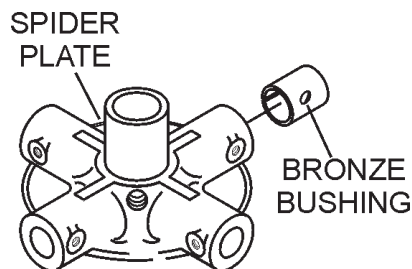

Figure 32. Bronze Bushings
4. Examine the bronze trowel arm bushing insert (Figure 32), clean if necessary. Replace bushing if out-of-round or worn.